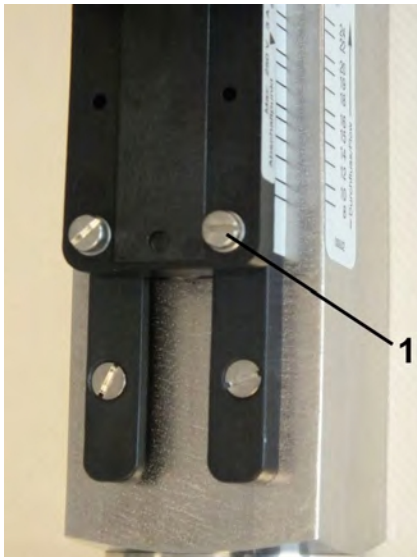

Fig. 32: Loosen set screws
1. ➤ Loosen the set screws of the switch contact (Fig. 32/1) using a flat-bladed screwdriver.
3. ➤ Re-tighten the set screws of the switch contact (Fig. 32/1) using a flat-bladed screwdriver. When doing so, observe the correct tightening torque of the screws.